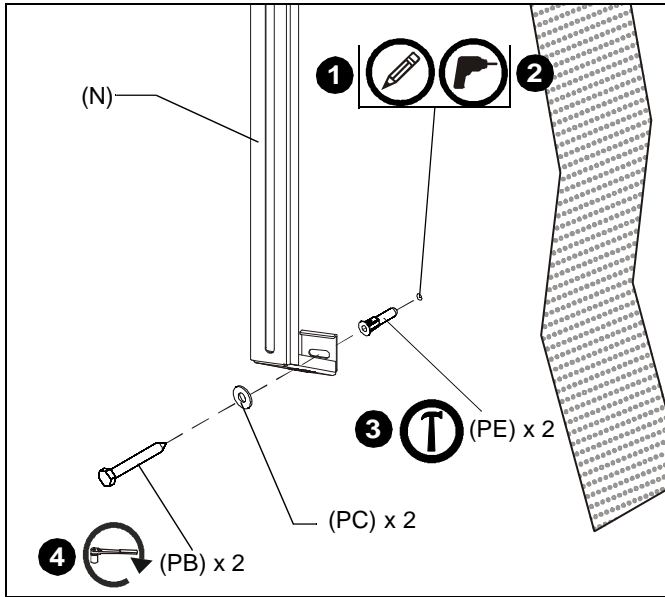

Figure 14
1. Mark the wall through the fixed wall leg (N) on each upright assembly (D). (See Figure 14)
2. Drill one 1/4" x 2-3/4" pilot hole at each marking. (See Figure 14)
3. Install an anchor (PE) into both pilot holes using a hammer. (See Figure 14)
4. Use two 1/4-20 x 2-1/2" lag bolts (PB) and two 1/4" flat washers (PC) to attach both fixed wall legs (N) to anchors in wall. (See Figure 14)